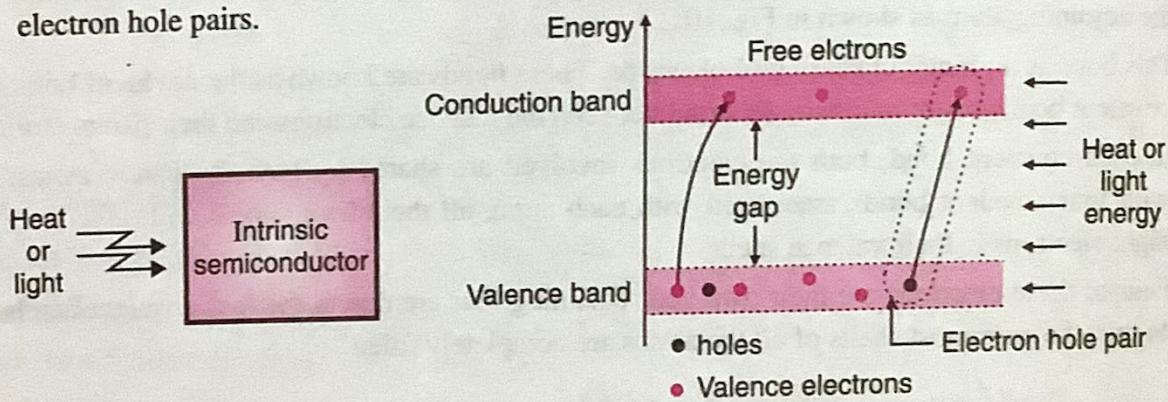
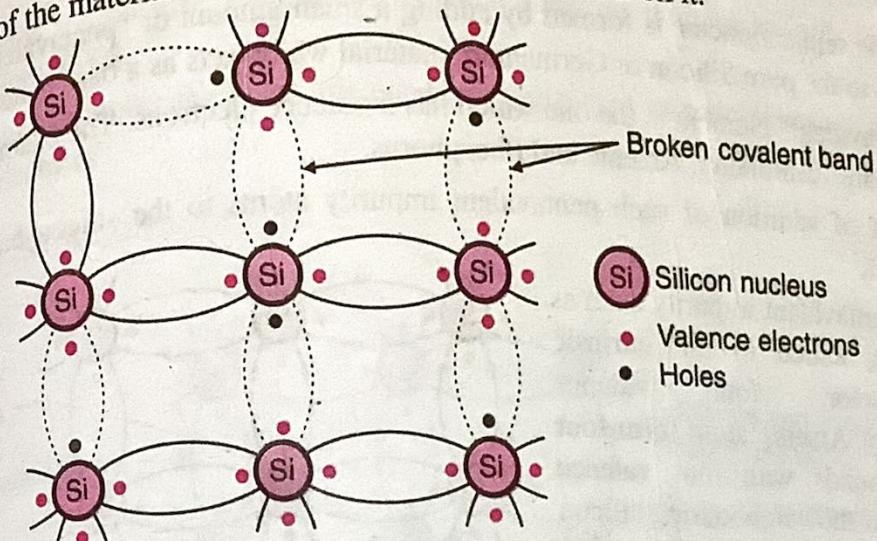

Fig. 10.2.4 : Valence electrons go to conduction band due to absorbed thermal energy
Fig. 10.2.5 : Generation of electron-hole pairs due to increased temperature
- The hole is said to have a positive charge as it is nothing but absence of an electron. The generation of electron hole pairs is shown in Fig. 10.2.4 and Fig. 10.2.5.